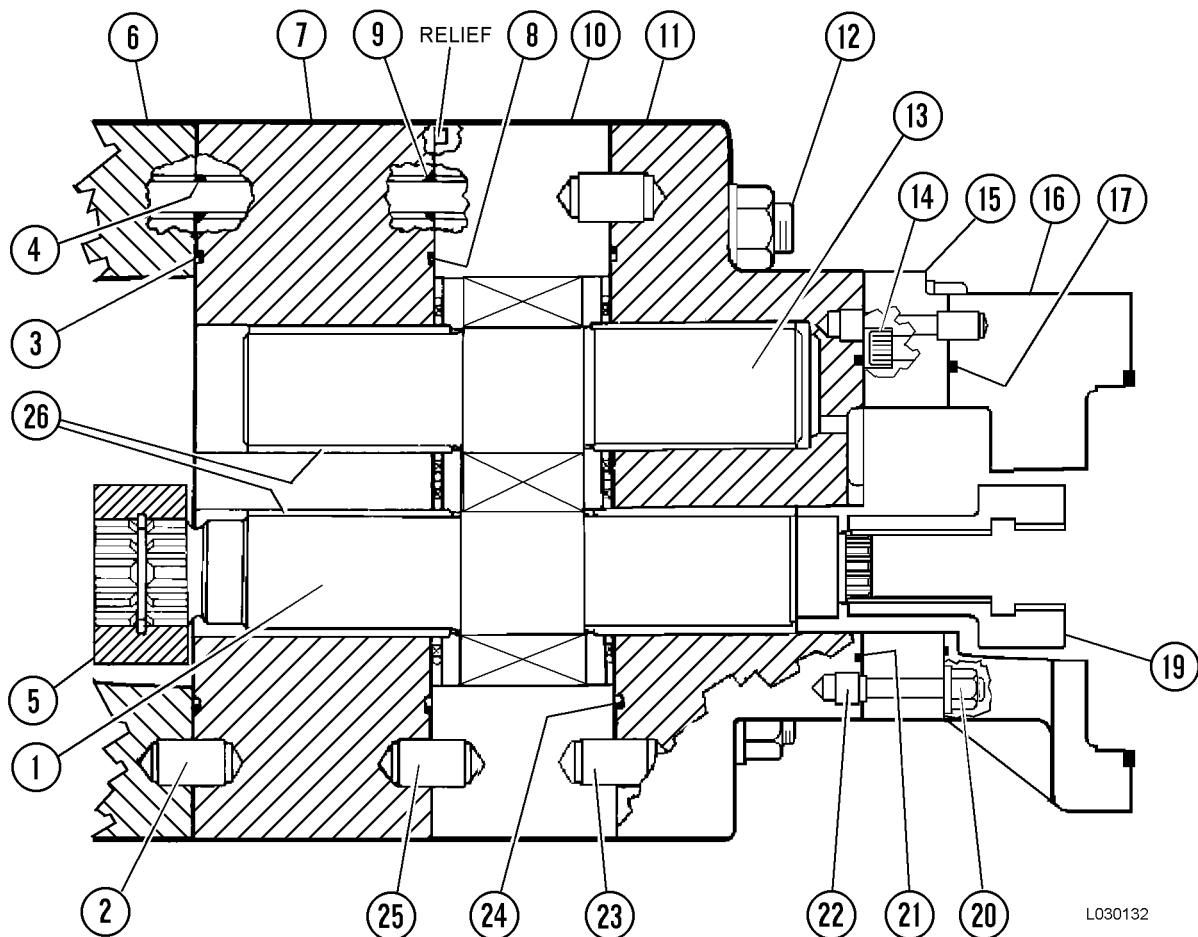

FIGURE 3-15. HOIST PUMP REASSEMBLY
17. Lubricate O-ring (3, Figure 3-15) and install it in bearing plate (7). Lubricate O-rings (4) and install them over studs (12). Replace dowel (2) if removed. Install bearing plate (7).
19. Lubricate the inside diameter of bearings (26). Install O-rings (8) and (9) and dowel (25) if removed. Install gear plate (10). Make sure that the relief in the gear plate is toward bearing plate (7).
30. Install a new O-ring on the steering pump flange and install the steering pump onto transition plate (16, Figure 3-15). Install the capscrews and tighten them to standard torque.